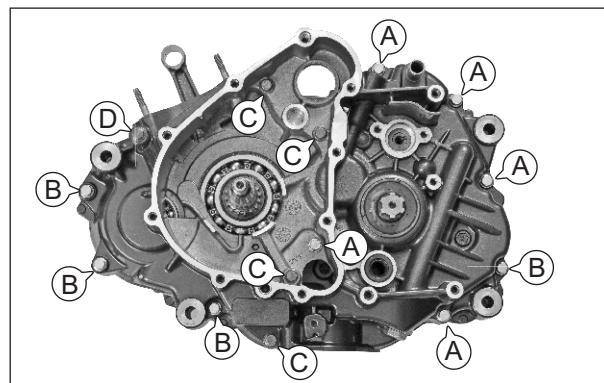

Fig. 3.140
- Remove hexagonal flange bolts (M6x55 - 5 nos. (A), M6x40 - 4 nos. (B), M6x75 - 4 nos (C) and M6x95 - 1 no. (D) from the crankcase mounting. (Fig. 3.140)